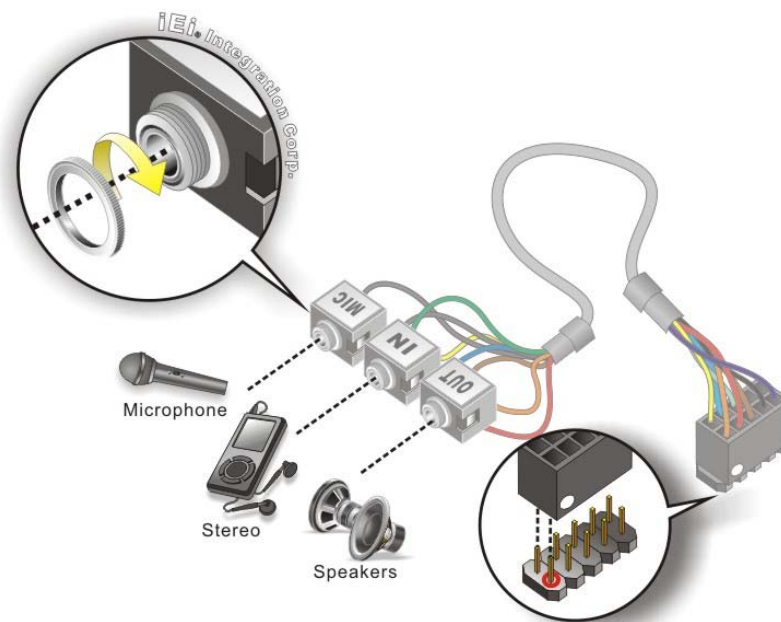

Figure 4-15: Audio Kit Cable Connection
Step 2: Align pin 1. Align pin 1 on the on-board connector with pin 1 on the audio kit connector. Pin 1 on the audio kit connector is indicated with a white dot. See Figure 4-15.